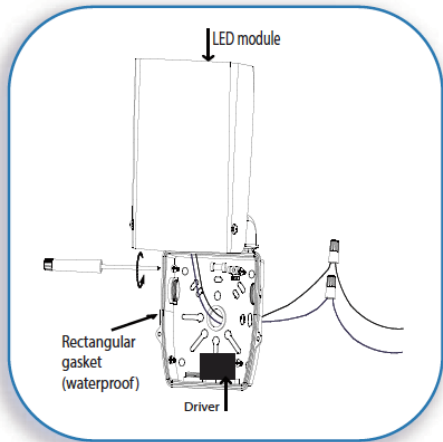

FIGURE 1
2. Expose the supply wires from the J-box. Mount the mounting box to the J-box with the supplied screws, gently pull the supply wires through the hole in the back housing, then connect the black supply wire to the black/brown fixture wire. Secure with the supplied wire nuts. Next, connect the white supply wires to the white/blue fixture wire and secure with the supplied wire nuts. Wrap the green wire around one of the protruding screw or connect it to the supply ground wire. Secure all wires with electrical tape (not supplied) and tuck into the mounting box. (Figure 1).